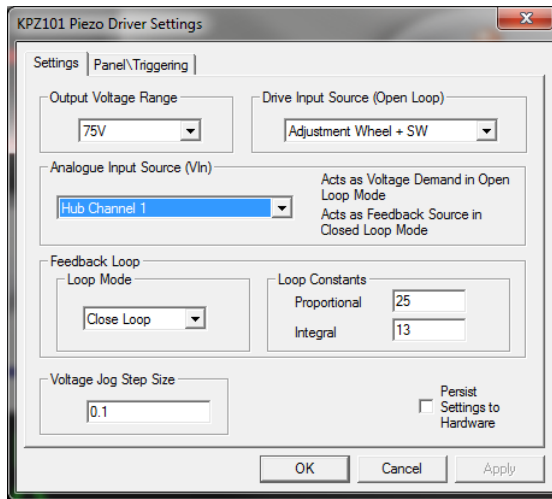

Fig. 5.4 Piezo Driver Settings
- 11) Make the following parameter settings, as shown in Fig. 5.4